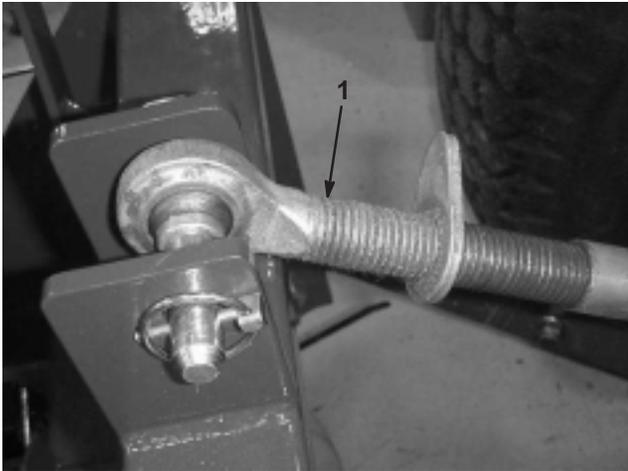

Figure 3
1. Connect the upper link to the holes in the blower bracket and secure it with a clevis pin and lynch pin (Fig. 3).